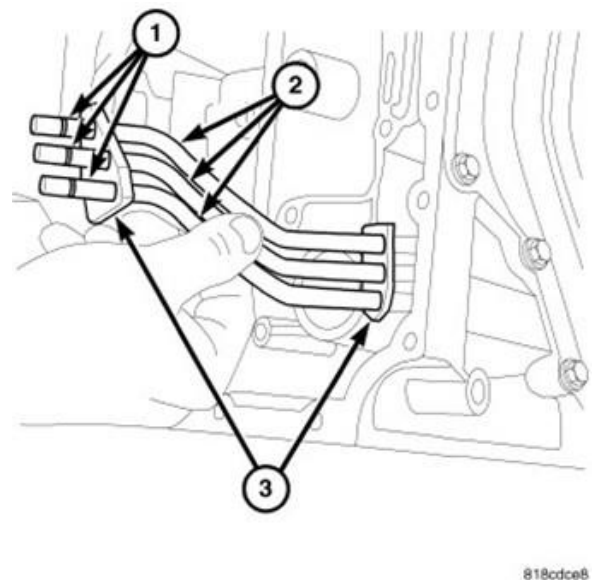

Figure 16 – Oil Transfer Tubes
26. Remove the oil transfer tubes (2) being careful to not damage the tube O-rings (1). Do not separate the oil transfer tubes from their retainers (3) (Figure 16).